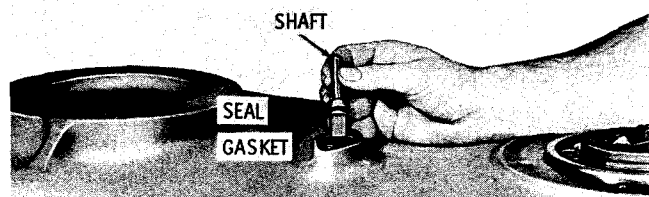

Fig. 7-122. Installing speedometer drive shaft
(12) On models which include a speedometer drive in the housing cover, install the gasket and seal onto the shaft. Install the shaft, engaging it with the speedometer drive plug in the idler gear hub (fig. 7-122).